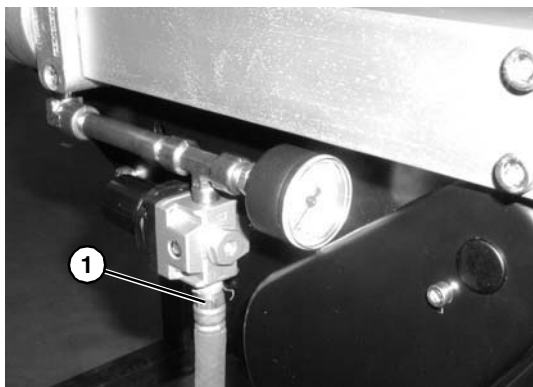

Figure 32
5. Reattach air supply (**Figure 32, item 1**) to center drive. Refer to “Conveyor Belt Tensioning” section on page 15 for more information.
7. Reattach air supply (**Figure 32, item 1**) to center drive. Refer to “Conveyor Belt Tensioning” section on page 15 for more information.